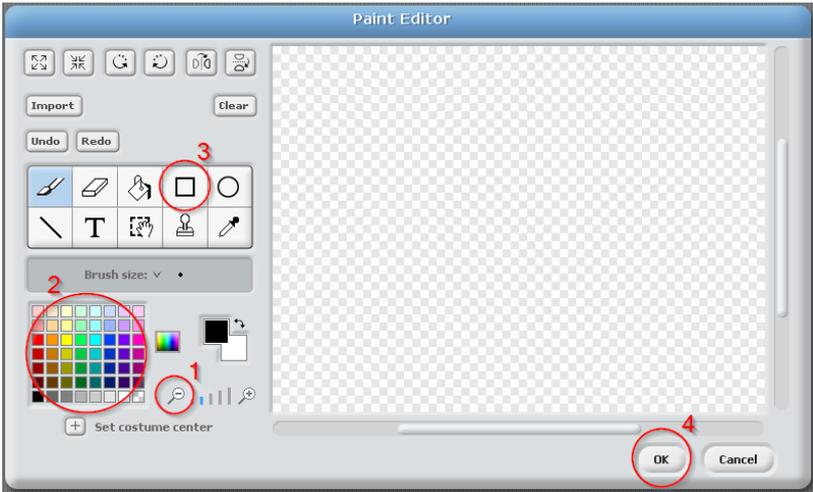

Figure 3-31. *Scratch Paint Editor*
2. The Paint Editor opens (Figure 3-31).